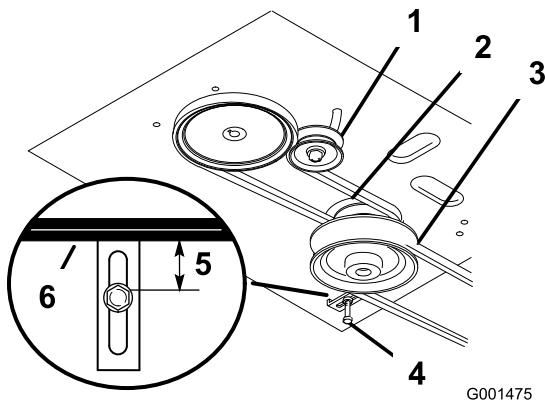

Figure 40
4. Remove the mower belt (Figure 40).
5. Loosen the pivot bolt enough to slide the idler pulley in the slot, and remove the traction belt from the engine and drive pulleys (Figure 40).
6. Install the new drive belt around the engine and drive pulleys (Figure 40).
7. Slide the idler pulley in the engine frame to tension the traction belt (Figure 40).
8. Install the mower belt (Figure 40).
9. Check the belt guide under the engine frame for the proper adjustment (Figure 40).
13. Check the belt guide under the engine frame for the proper adjustment (Figure 40).